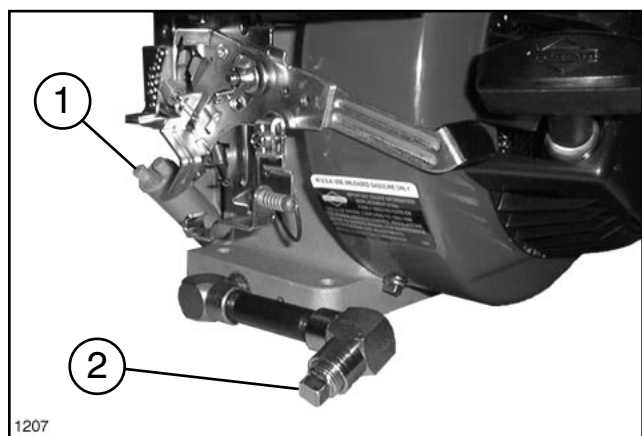

FIG. 2
2. Remove the pipe plug in the end of the oil drain pipe and let oil flow into a drain pan. When oil stops, reinstall drain plug. See FIG. 2.